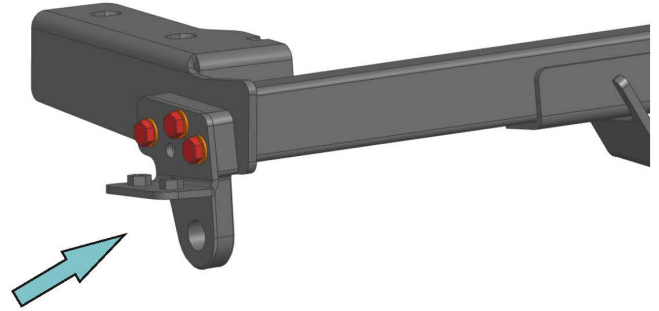

Fig. 14
14. Fix towing hooks (item 17), bumper body bracket left (item 10) and bumper body bracket right (item 11) using bolts M12x1.25x40 and washers 12 (item D,G) (Fig. 14).